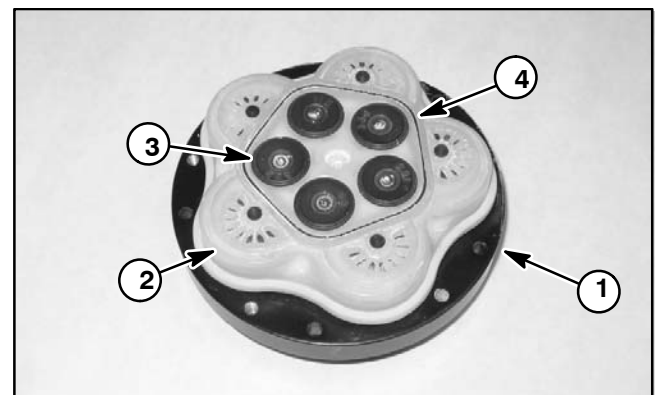

Figure 35
2. Place check valve kit onto wobbler plate/diaphragm assembly (Fig. 35). Position outlet check valves to top of check valve kit.